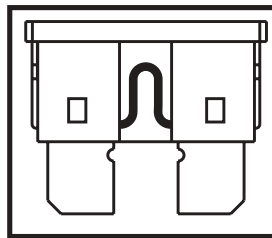

Figure 21. Working Fuse
- Examine the fuse to be sure it is blown. See figures 21 and 21A.